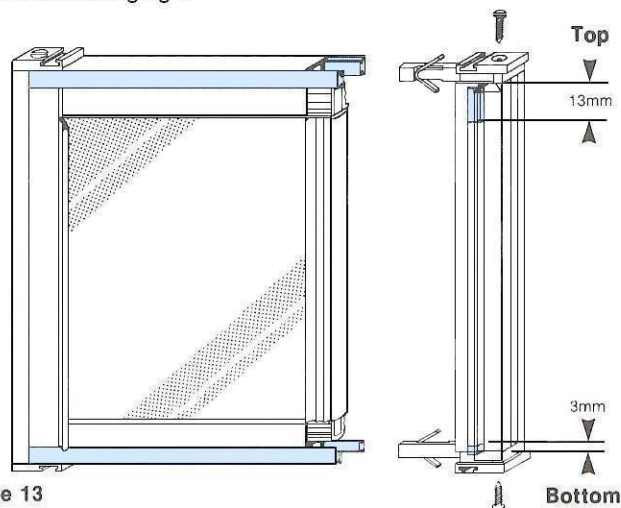

Figure 13
3. Notch Back the interlock as shown in Figure 13, sliding the seal clear to avoid damaging it.